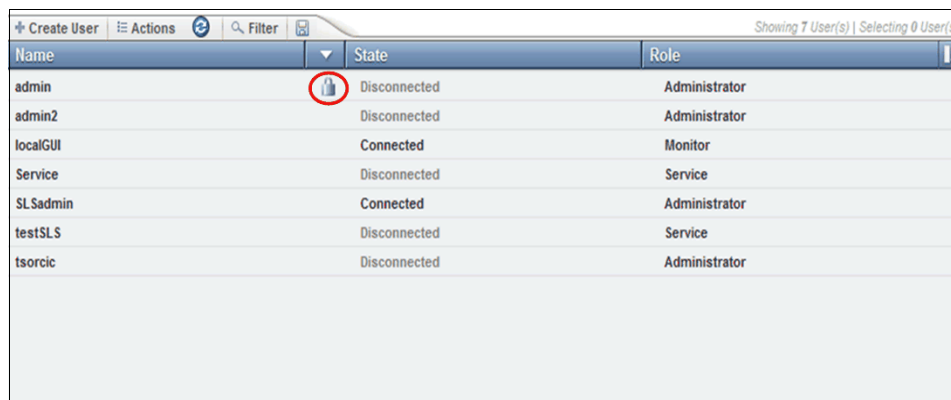

Figure 4-55 Locked user
- ▶ **Unlock:** If a user is locked out because the user exceeded the maximum number of unsuccessful login attempts, an administrator can unlock the user. The locked user shows a locked icon on the user list, as shown in Figure 4-55.